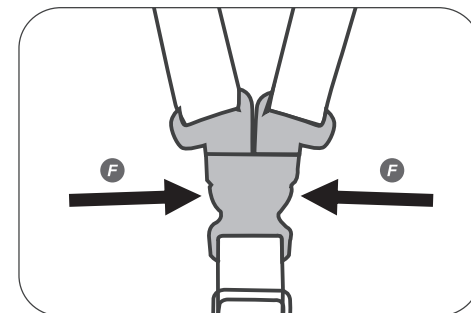

Fig. 23
29. To release, apply pressure to both sides of the Buckle depressing the Buckle Tongues **F** until Buckle can be pulled downward away releasing both Buckle Tongues (See Fig. 23).